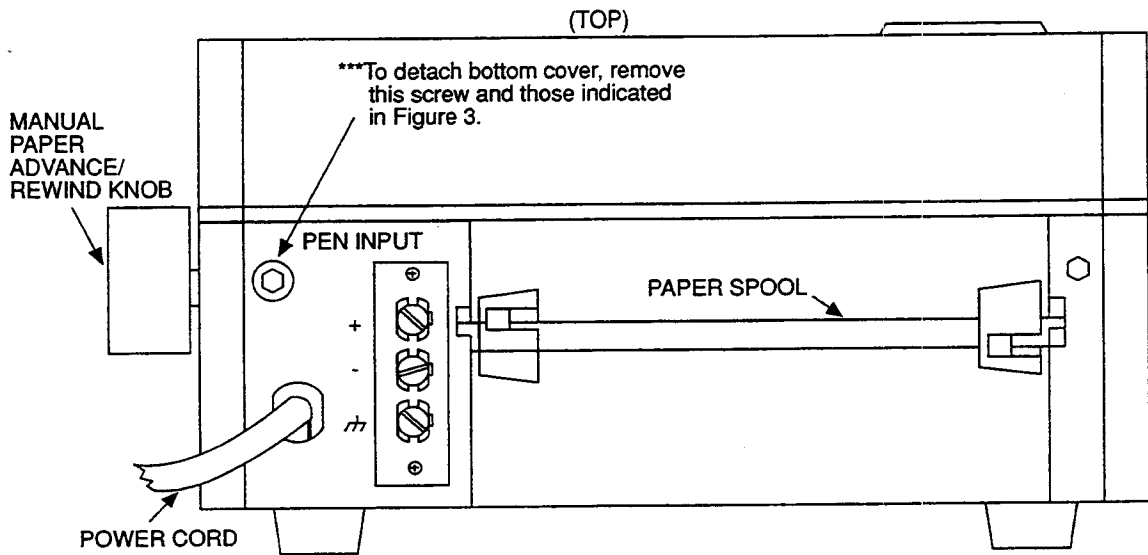

Figure 2-2. Rear Panel
2.2.2 Installing the Chart Paper (See Figures 2-2 and 2-3)
2.2.5 Input Signal Connections (See Figure 2-2)